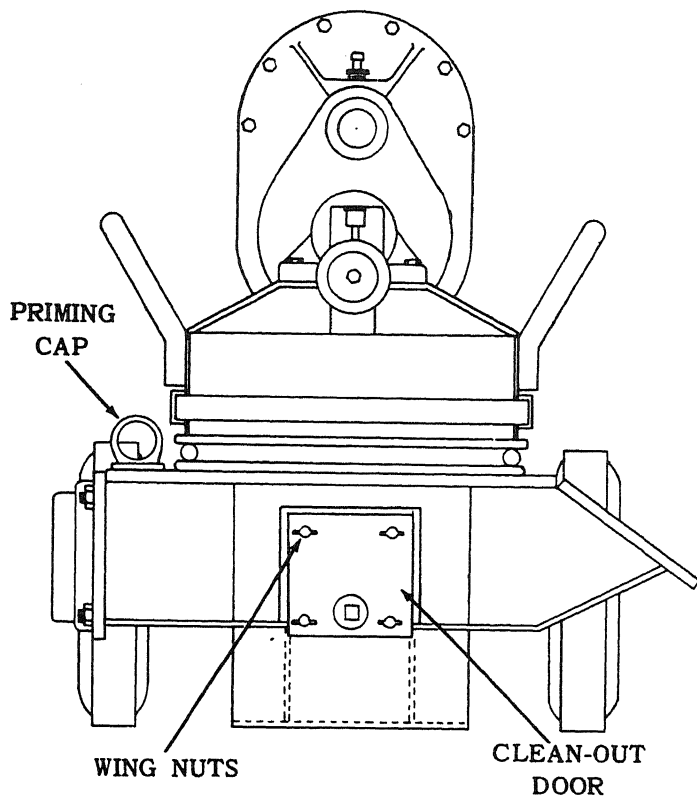

FIGURE 3
9. Movement to new worksite - Disconnect the suction and discharge hose from the pump. Drain pump body by removing the pump drain plug, reference, Fig. 7. If extremely hi-solid content water, mud or mucky water has been pumped, the pump body should be flushed out with clean water. The clean-out door may be removed for this purpose, reference, Fig. 3 and 7.
14. Pump body clean-out door - Fig. 3 - A clean-out door is provided for quick inspection and clean-out. After pumping of muddy, sludge water, or water containing chemicals harmful to rubber, the pump body should be flushed out with clean water. Access to the inside of the pump body is made by removing four wing nuts holding clean-out door to pump body and remove door. Place door and rubber gasket. Turn wing nuts down tight.